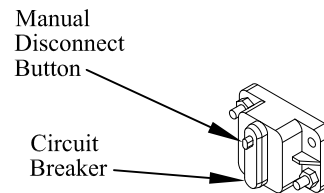

Figure 1: Circuit breaker.
2. **Disconnect** the liftgate power cable from the positive side of the battery or manually **Trip** the circuit breaker (Figure 1).